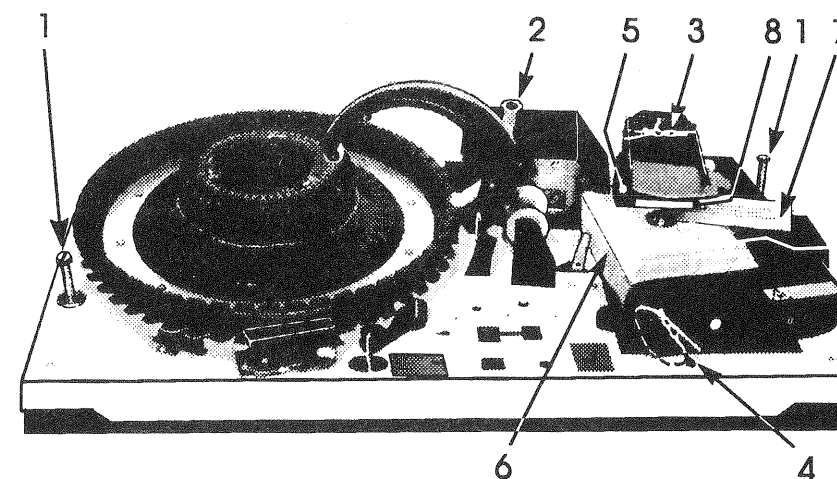

Fig. 1
1. The mechanism platform is fixed to cabinet support with one bolt in front LH side and one bolt back RH side (Fig.1, Pos. 1). Remove both completely using a 13 mm spanner. Possibly you can use the tool is fixed to the lid of the gear box (Fig.1, Pos. 2).
2. Remove plastic string at the pivot point of the pressure arm (Fig.1, Pos. 3).
3. Remove plastic holder securing CD player chassis (Fig.1, Pos. 4).
4. Remove foam (Fig.1, Pos. 5), foam foil (Fig.1, Pos. 6) securing laser head in CD player and instruction plate (Fig.1, Pos. 7).
5. Remove foam between magnetic pressure disc and black plastic cover (Fig.1, Pos. 8)